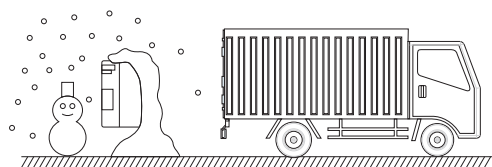

Figure 3
③ Spongy and soft things such as cotton and sponge as well as things that can absorb sound such as snow, as shown in Figure 3